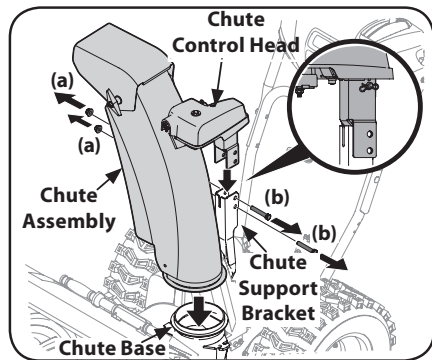

Figure 2-30
1. Remove lock nuts (a) and hex screws (b) from chute support bracket (this will require two wrenches). See Figure 2-30.
2. Place chute assembly onto chute base and chute control head onto chute support bracket. See Figure 2-30.